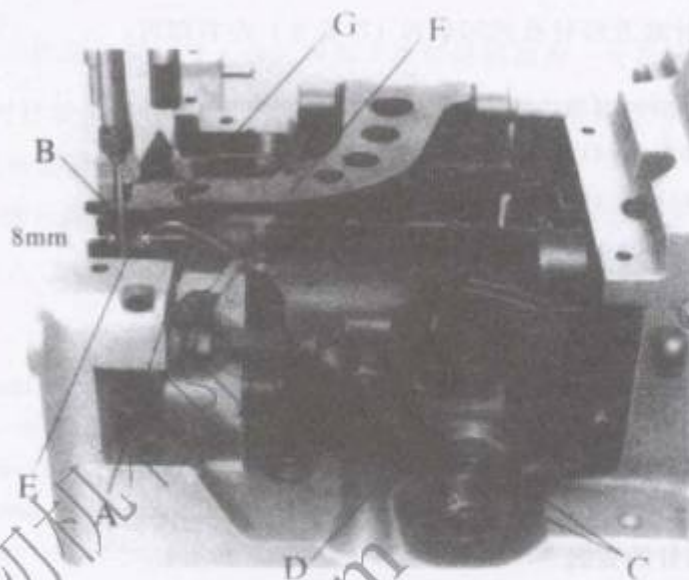
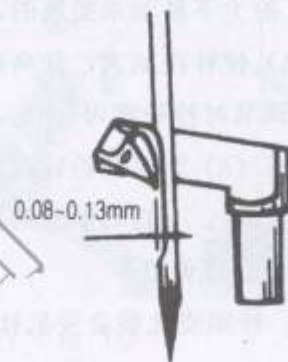
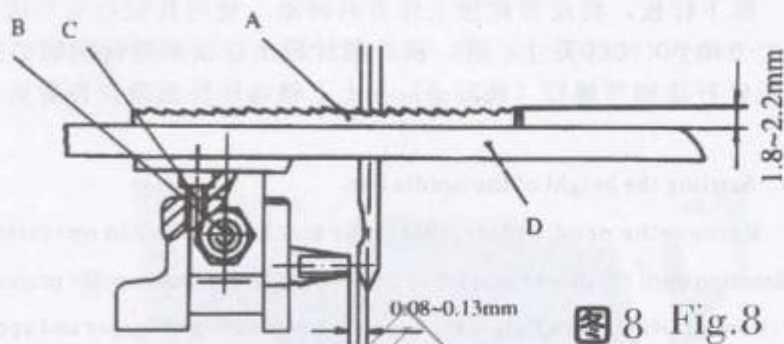

图5 Fig.5
图6 Fig.6
图8 Fig.8
(二) 用手顺时针方向旋转皮带轮,使针杆下移至最低点,同时弯针退至最右边位置,此时弯针(图5, A)尖和机针(B)的中心线距离为8毫米( $5/16$ 英寸)。调节时拧松弯针外曲柄的三只螺钉(C),左右转动弯针外曲柄(D),调节至需要的尺寸后再拧紧螺钉(C)。
(2). Rotate the machine pulley clockwise by hand, so that the needle bar moves to the lowest point, at the same time the looper moves back to its farthest position to the right. The distance from the pent of the looper (A, Fig. 5) to the centerline of the needle is 8mm(5/16 in.). For adjustment, loosen two screws(C) in the looper drive lever, rotace looper drive lever(D) left or right as required to obtain specified dimension and retighten screws(C).
(三) 继续转动皮带轮,使弯针(图5, A)从右向左运动时靠近机针背面的凹形处通过而不得接触,其间隙为0.08毫米-0.13毫米(0.003至0.005英寸)(图6所示)。调节时拧松弯针小偏心摇杆(图4, C)的螺钉(图4, D),按需要把弯针向前或向后摆动从而转动弯针架轴(图4, E)再拧紧螺钉(D)。
缝纫时因于袋边接接处厚度不一致，往往会使机针刺在缝料厚薄交界处而弯曲或发生故障，而机针挡块(图5上)则可起到保护作用。两者的间隙为0.08~0.13毫米(0.003至0.005英寸)，(图8所示)。调整时将皮带轮按工作方向转动，使机针挡块靠近机针，拧松牙架上(图5, F)紧定螺钉(G)，移动机针挡块(E)至合适间隙后再拧紧螺钉(G)。
The needle will bend or break when abutting bags made of different thickness of sewing material. And the needle guard (E, Fig. 5) will protect the needle. The clearance between the needle and the needle guard is 0.08-0.13mm(.003 to .005in.) (Fig. 8). For adjustment, rotating pulley in the direction of operating, so that the needle guard moves against the needle. Loosen setscrew (G) on feed dog holder (Fig. 5), move the needle guard accordingly. Retighten screw (G).
根据缝料质量与厚度确定送料牙(图8, A)高度。对于布袋、塑料编织袋等薄料，齿面应高出针板(D)上平面约1.8毫米(0.070英寸)，麻袋约2.2毫米(0.090英寸)，调整时先将送料牙行至最高点，卸下针板和送料牙。按需要的高度调节支承螺针(C)后，重新装上送料牙和针板，并紧固六角螺母(B)。
The height of the feed dog (A, Fig. 8) are determined by the quality and thickness of the sewing materials. For closing thin material such as bags made of cloth and plastic, teeth should project 1.8mm (.070in.) above the throat plate (D) top surface, and for sacks about 2.2mm (.090) above the throat plate. For setting, move the feed dog to the highest position, remove throat plate and feed dog, adjust the supporting screw (C) as required, remount the feed dog and throat plate. Retighten screws (B).